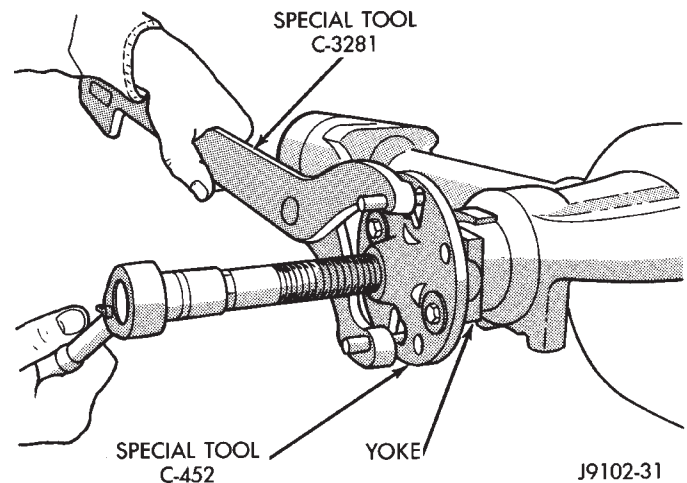

Fig. 16 Pinion Yoke Removal
(1) Remove the pinion yoke nut and washer. Use Remover C-452 and Wrench C-3281 to remove the pinion yoke (Fig. 16).